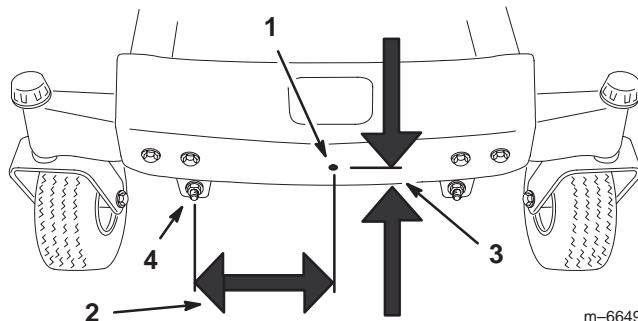

Figure 1
1. In the front of the machine, measure 7-1/2 inches (19 cm) over from the right adjusting nut and up 1-1/4 inches up from the mower frame (Fig. 1).
2. Mark the location and drill a 1/4 inch dia. hole in the front of the machine (Fig. 1).
3. Remove any burrs from the drilled hole on both sides of the frame (Fig. 1).
5. Mark the location and drill a 1/4 inch dia. hole in the side of the machine (Fig. 1).
6. Remove any burrs from the drilled hole on both sides of the frame (Fig. 1).